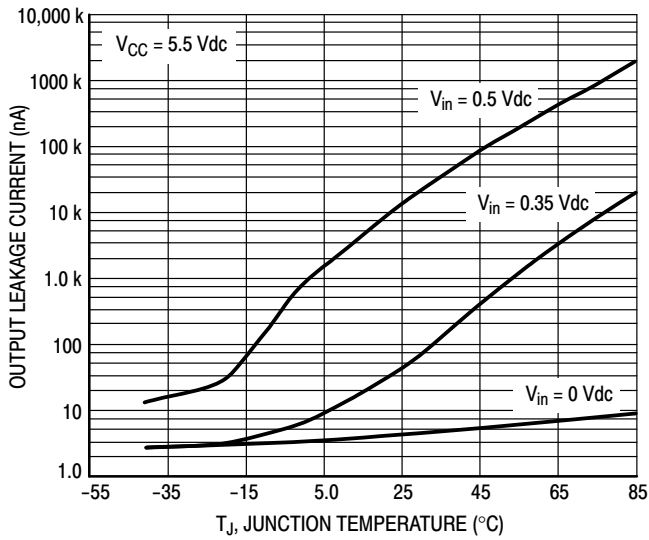

Figure 8. Output Leakage Current versus Temperature
- Using Figures 8 and 9, insure that “OFF” state leakage over temperature and voltage extremes does not violate any system requirements.